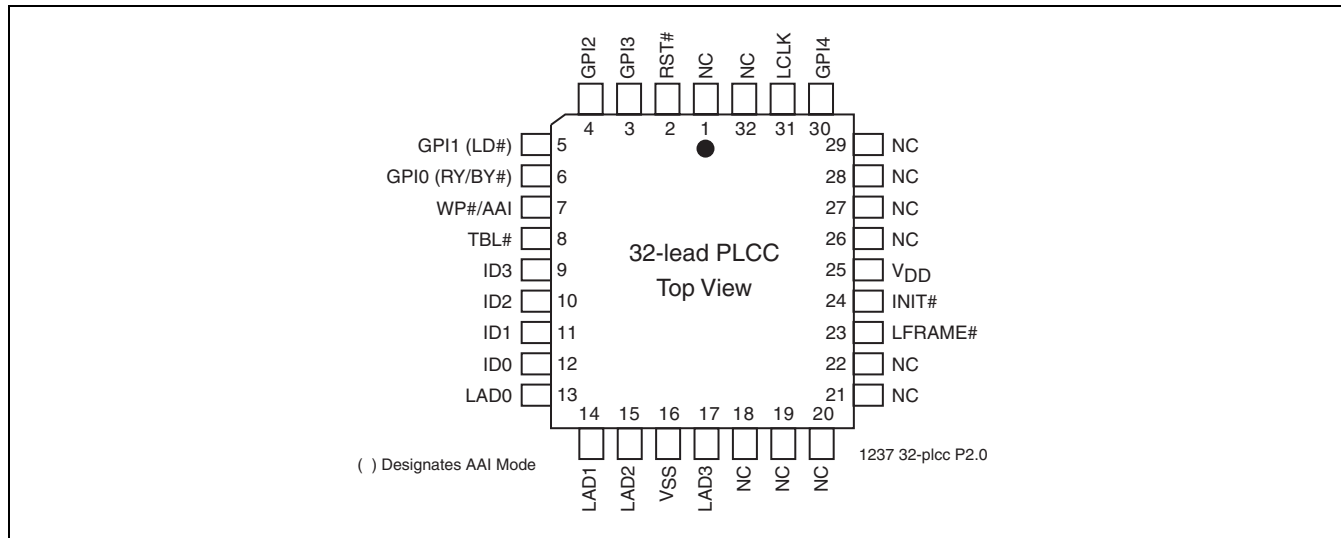

FIGURE 3: Pin Assignments for 32-lead PLCC
- FIGURE 3: Pin Assignments for 32-lead PLCC 9